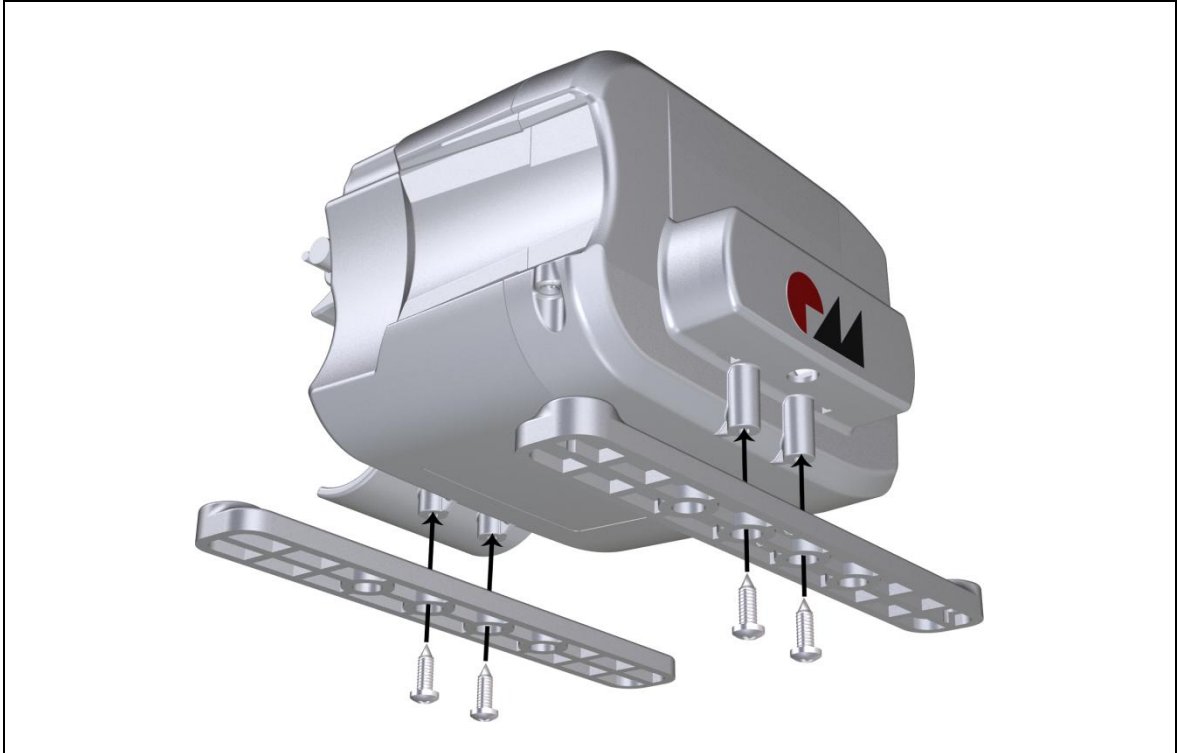

Figure 11 Mounting the adapter on the MC10 control unit
- 1 Use four screws (according to DIN 7981, with 3.9 mm diameter and 13 mm length) to attach the optional adapter to the control unit, as shown in Figure 11.